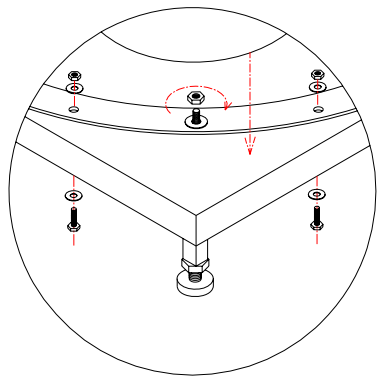

Fig 5
8. Move the tray out. Clean the surface of the tray threshold and apply a layer of silicone on to the edge; put the back panel onto the tray and fix them with M6×20 bolt sets (fig 5 & 6);